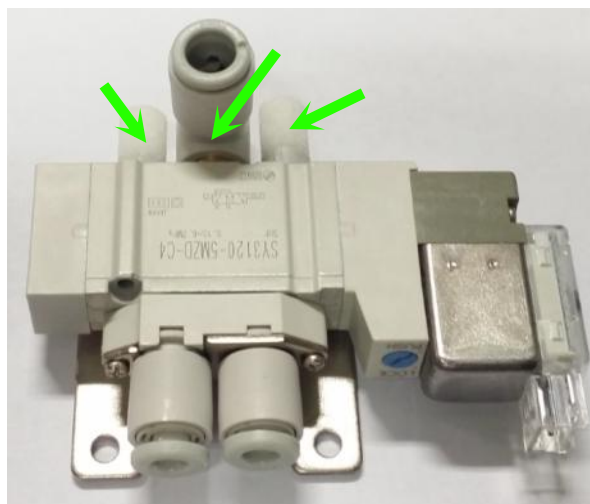

Figure 7 Safety Stop Pneumatic Controller Kit
10. Assemble Fitting and Silencer at New Safety Stop Pneumatic Controller Kit. May refer to below Figure 7